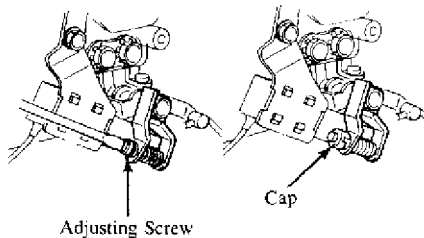

Fig. 6: Throttle Sensor Adjusting Positions
- * Remove the cap from the adjusting screw. See Fig. 6.